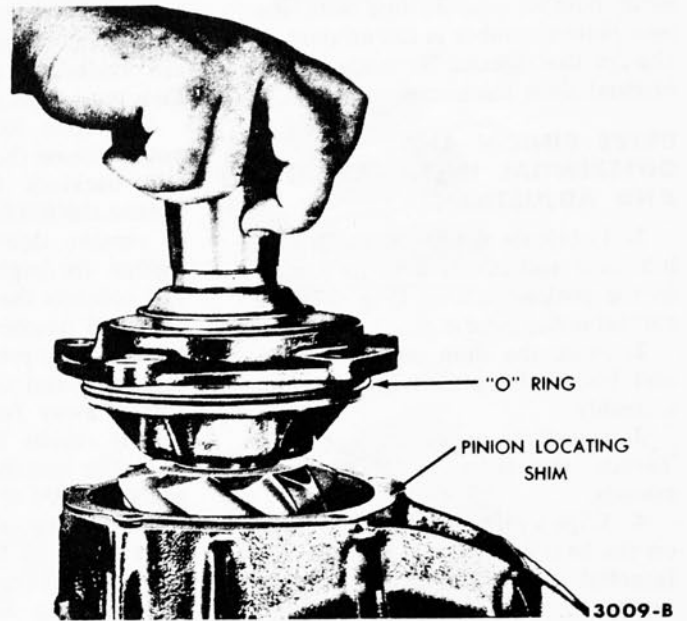

FIG. 27—Drive Pinion Retainer Installation
Pinion bore dimension tolerances and the operating positions of the gears require the use of an adjusting shim between the pinion retainer and the carrier (Fig. 27).
1. Lubricate the O-ring with axle lubricant and install it in its groove in the pinion retainer (Fig. 27). Be careful not to twist it.